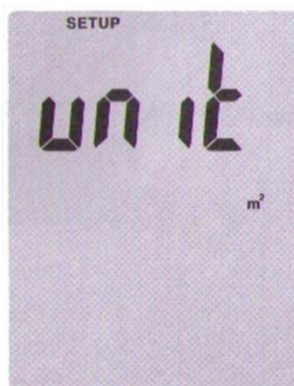

Fig 1
4. Set the zero point. To do so, please make sure that the metal protection ring on the sensor head is in the upper position (air velocity = 0). If this is the case, press and hold . (Fig. 1)
To access the unit selection screen for the cross-sectional area, use  or  until the display shows "UNIT" (Fig. 1). Now press  to confirm. An "AREA" indication should appear on the display. This means that you can now select the unit of the cross-sectional area by using  and . The selected unit is shown next to the "AREA" indication. To confirm your selection, press . To exit the setup menu, hold  for 3 seconds.